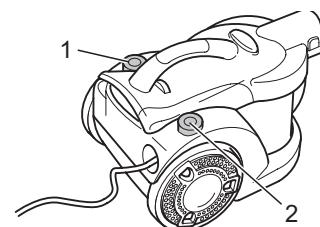

Fig. 13
- 1. Switch off the cylinder vacuum cleaner with the on/off switch (Fig. 13/1) and pull the plug from the mains socket.
- 3. Push the cord retracting button (Fig. 13/2) to retract the power cord.